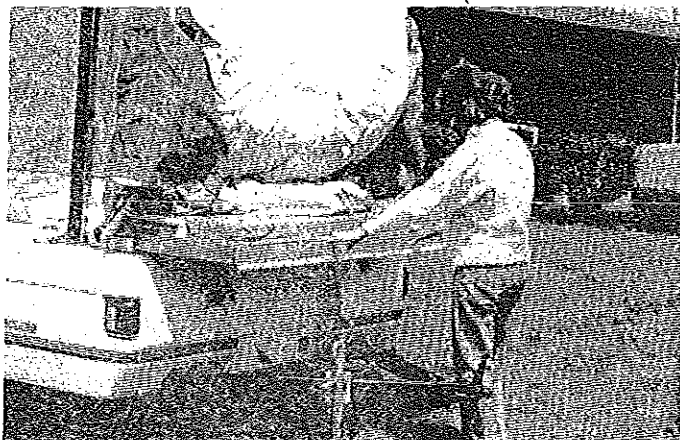

FIGURE 10
16. Standing right of center at the tongue end of the trailer, place hands (approximately 1 1/2 feet apart) on the bed frame and pull until the bed hits the stops. See Figure 10.